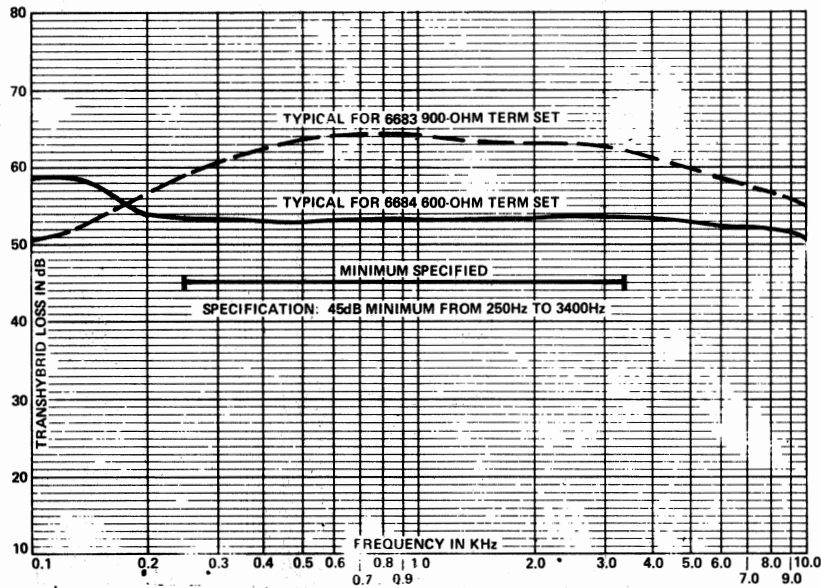
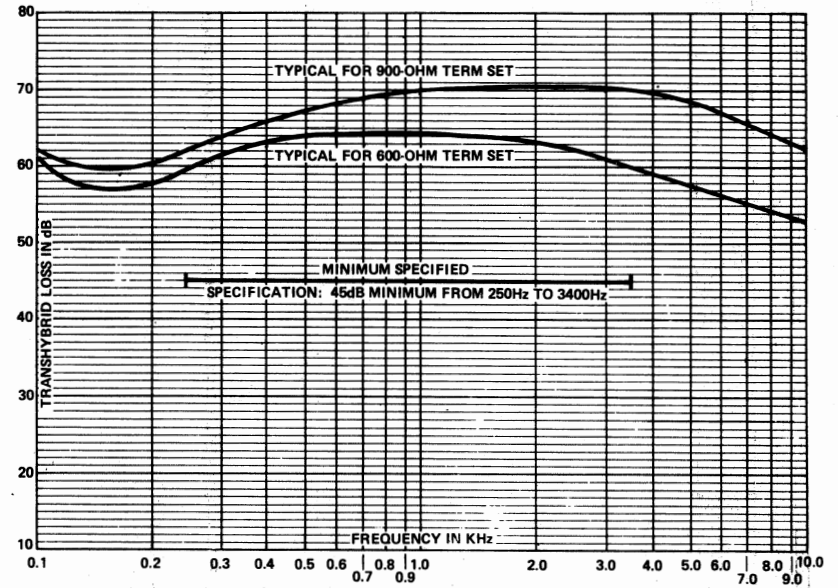

Figure 9. Transhybrid Loss Specification for 6683 and 6684
Figure 10. Transhybrid Loss Specification for 6685
- (e) TRANSHYBRID LOSS (WITH PRECISION TERMINATION): As specified graphically. Refer to Figure 9 for the 6683 and 6684 and to Figure 10 for the 6685.